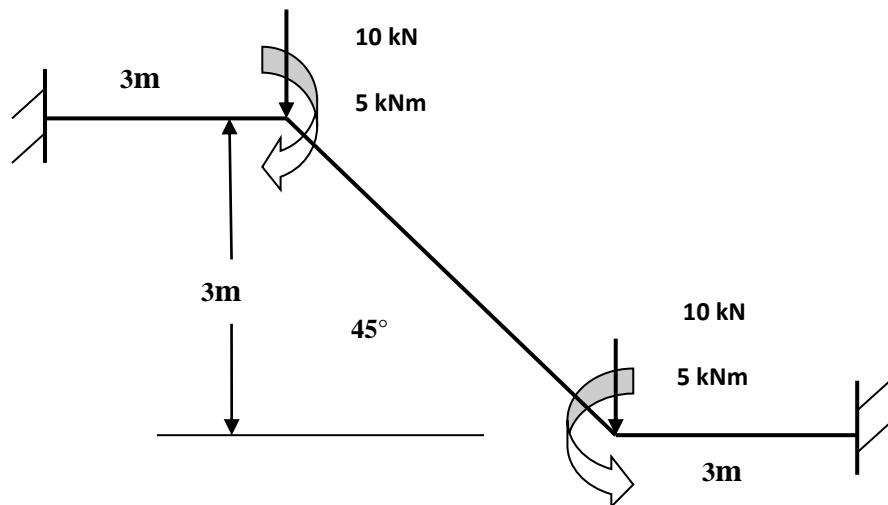

Fig. Q. 3
3. For the plane frame shown in **Fig. Q. 3**, determine the unknown displacements and rotations of the nodes. Let $E = 210 \text{ GPa}$, $A = 10^{-2} \text{ m}^2$ and $I = 2 \times 10^{-4} \text{ m}^4$ for all the elements. (10)